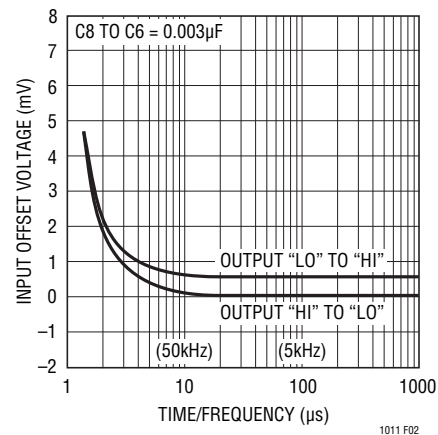

Figure 2. Input Offset Voltage vs Time to Last Transition
This circuit is especially useful for general purpose comparator applications because it does not force any signals directly back onto the input signal source. Instead, it takes advantage of the unique properties of the BALANCE pins to provide extremely fast, clean output switching even with low frequency input signals in the millivolt range. The $0.003\mu\text{F}$ capacitor from Pin 6 to Pin 8 generates AC hysteresis because the voltage on the BALANCE pins shifts slightly, depending on the state of the output. Both pins move about 4mV. If one pin (6) is bypassed, AC hysteresis is created. It is only a few millivolts referred to the inputs, but is sufficient to switch the output at nearly the maximum speed of which the comparator is capable. To prevent problems from low values of input slew rate, a slight amount of DC hysteresis is also used. The sensitivity of the BALANCE pins to current is about 0.5mV input referred offset for each microampere of BALANCE pin current. The 15M resistor tied from OUTPUT to Pin 5 generates 0.5mV DC hysteresis. The combination of AC and DC hysteresis creates clean oscillation-free switching with very small input errors. Figure 2 plots input referred error versus switching frequency for the circuit as shown.